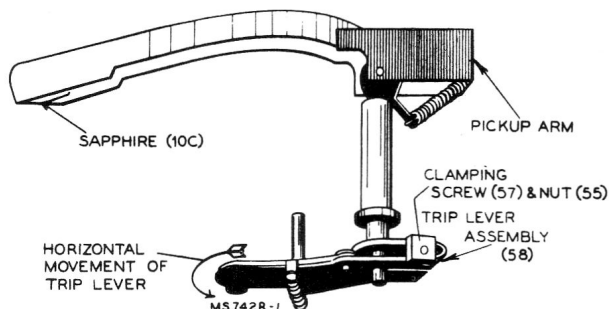

FIG. 13
1. Assemble the pickup arm and trip lever assemblies as shown in Figure 13. Leave the clamping screw (57) loose enough to permit horizontal movement of the trip lever on the shaft. (Allow approximately .010 inch vertical end play.)